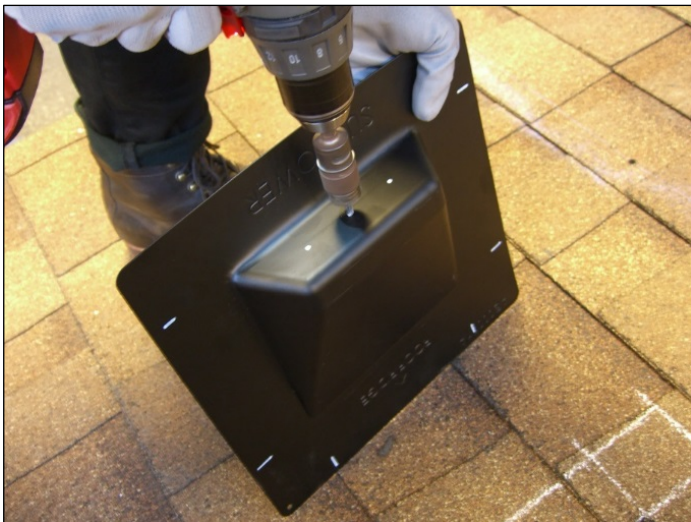

Fig. J6
9. The flashing comes with three hole locations each marked with a white dot. Allowing for the size of your chosen gland, drill the flashing with a step drill tip (or knockout tool) centered on one of the dots (Fig. J6).